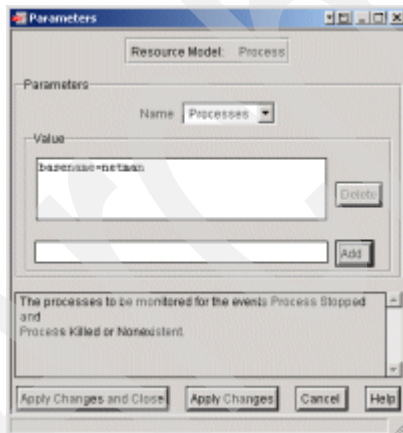

Figure 9-105 Adding netman to parameter list
6. Enter the text **basename=netman** in the Value text field, and then select **Add**. The value is added to the Value list as shown in Figure 9-105.